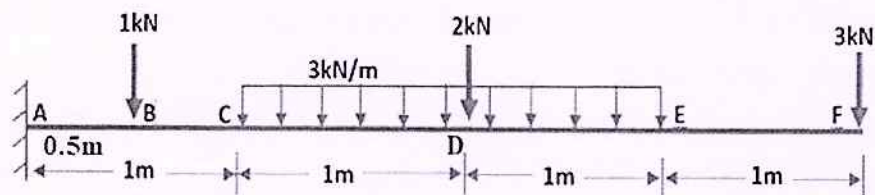

Fig 1.2
- 11 a) Analyse the beam shown in Fig 1.2 and draw Shear force diagram and Bending moment diagram CO3 (9)